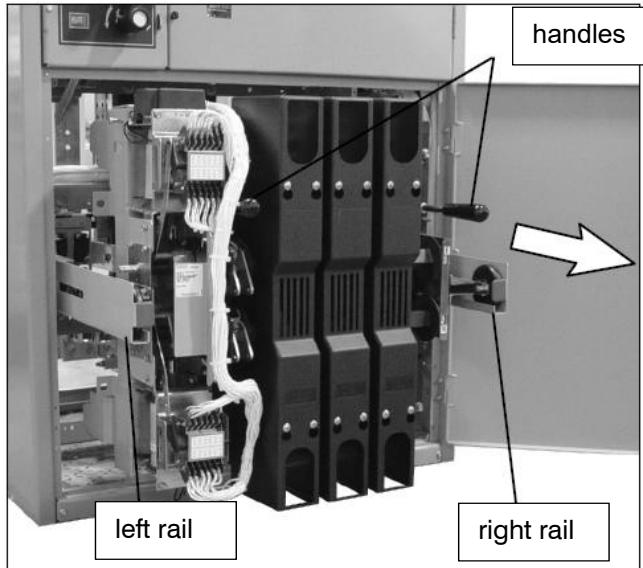

Figure 19. Transfer switch isolated and pulled out for inspection.
- Open the lower enclosure door. Pull out both left and right side rails then use the two tab handles to roll out the transfer switch. It can be safely inspected in this position. The transfer switch can also be removed for easier maintenance operations. See Figure 19.